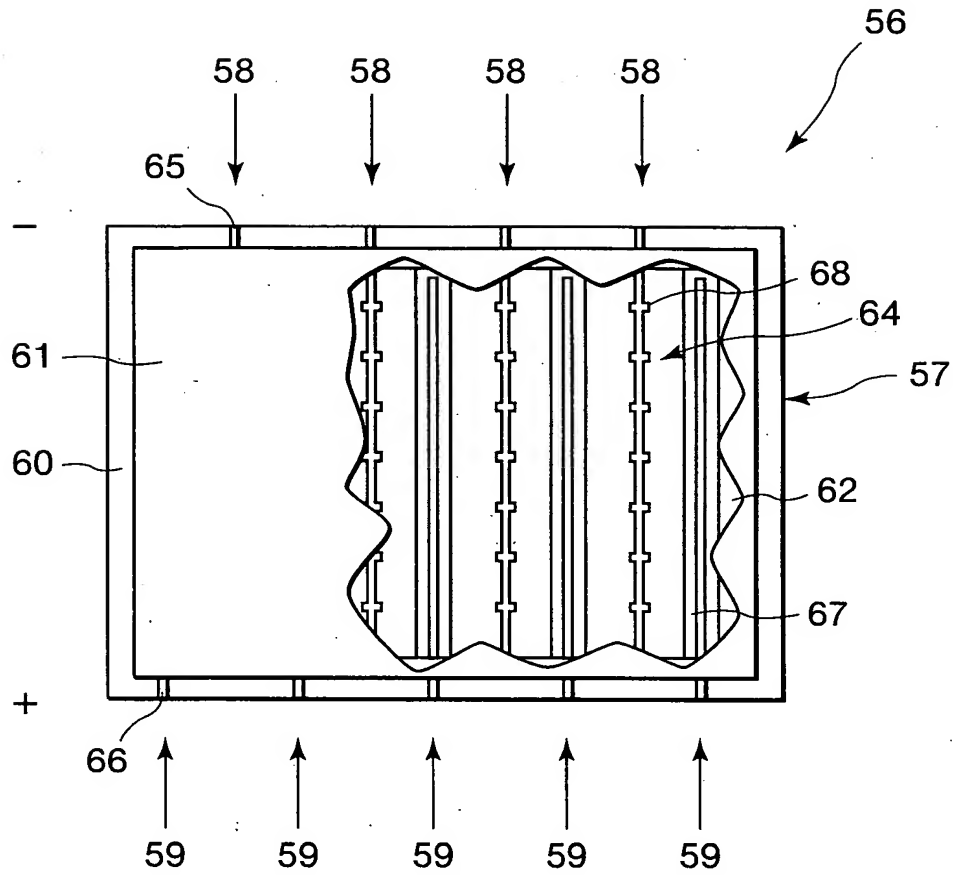

FIG. 1A (PRIOR ART)
Applicant hereby submits fourteen (14) drawing sheets containing Figs. 1A to 19D in the above-referenced patent application.